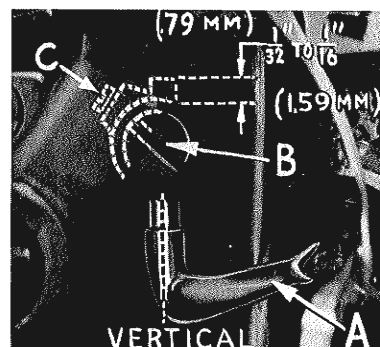

Fig. 8A
Insert upper spreader (A, Fig. 8A) in its holder. Screw (B) holds upper spreader in its holder, and permits it to be pushed in or out or turned around its shank. Insert spreader holder into spreader shaft, if it is not already in place. Screw (C, Fig. 8A) on clamp collar holds spreader holder in the shaft, and allows holder to be rotated or adjusted laterally.
Preliminary Setting: When upper spreader is at the right end of its stroke, spreader holder should be set to position spreader shank about vertical (Fig. 8A). Top end of spreader shank should extend 1/32 to 1/16 inch (.79 to 1.59 mm) above the spreader holder (Fig. 8A).